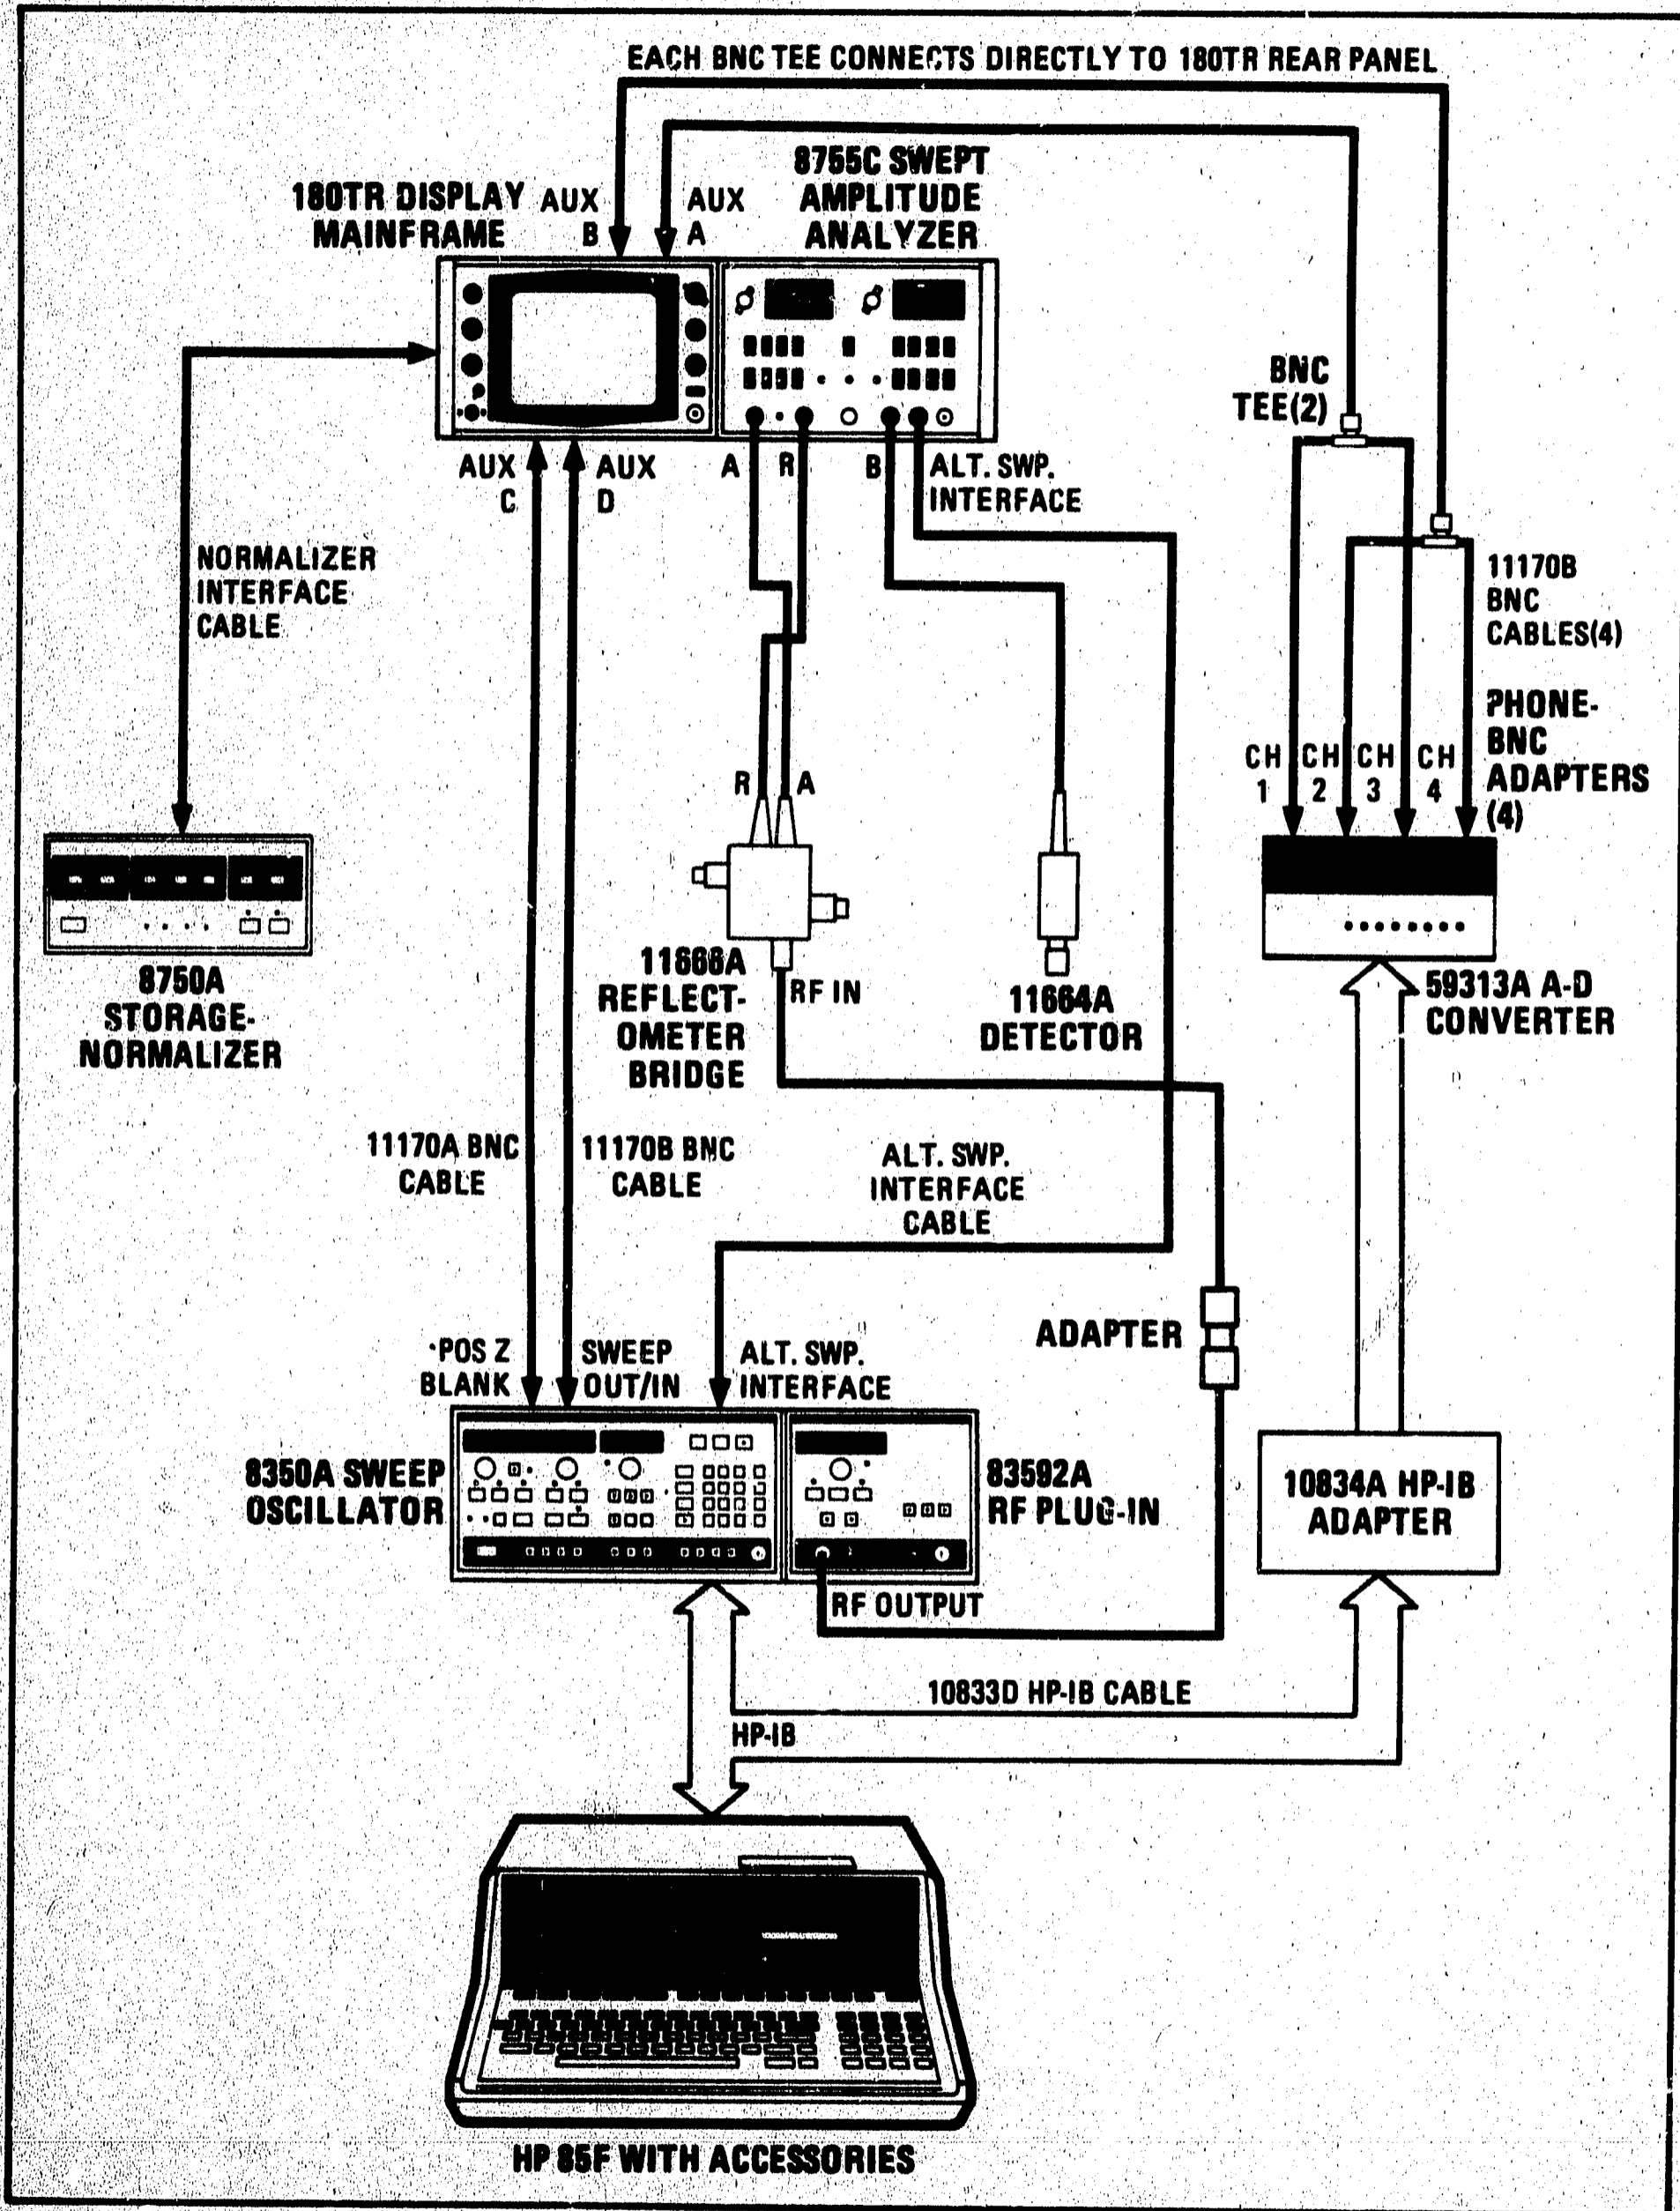

Figure 2-1. 8755P System Interconnections.
- a. Mate the cable connector to the appropriate 8755C front panel input (A, B, or R). Refer to Figure 2-1 for the system interconnection diagram.
2-35. A complete system interconnection diagram is shown in Figure 2-1. All front and rear panel connections, with the exception of the line power connections are shown with references to the proper cables to be used. The system is supplied from the factory with all major interconnections to the rack mounted instruments completed.